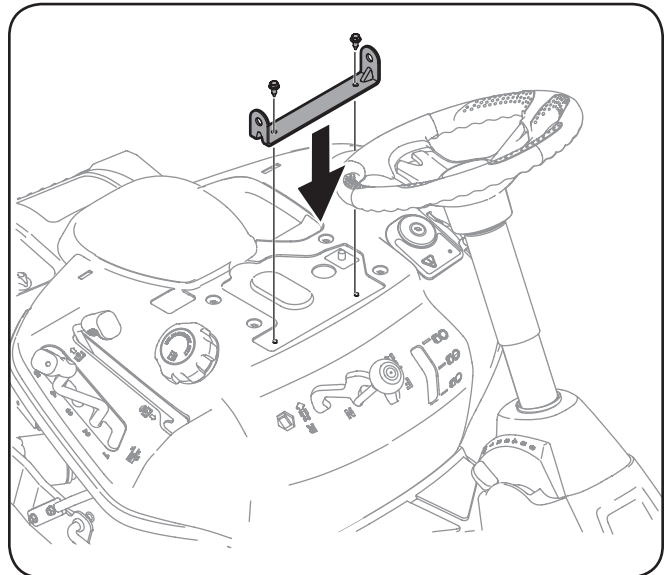

Figure 3-6
3. Align the seat bracket in place over the holes from where the self-tapping bolts were removed, as shown in Figure 3-6.
4. Using a 1/4-inch drive ratchet with a 3/8" socket, secure the seat bracket with the self-tapping bolts removed in step 2. See Figure 3-6.